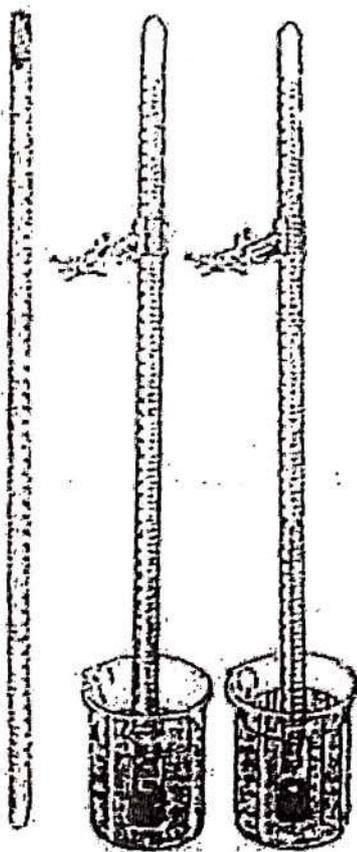

Figure 1 Manipulating the burette.
3. Fold the magnesium ribbon into a small pellet. Wrap it tightly all around with copper wire so that no small pieces can escape as it dissolves. Leave about 5 cm of copper wire to serve as a handle. See Figure 1.
7. While holding the copper coil by the handle, insert the metal about 3 cm down into the burette. Hook the copper wire over the edge of the tube and hold it there by inserting the stopper. Fill the burette completely so that the stopper displaces a little water when put in place. See the left of Figure 1.
8. Cover the hole in the stopper with your finger and invert the burette in the 600 mL beaker of water, as shown in the middle of Figure 1. Clamp the burette in place. The acid being more dense than water will flow down to the bottom and eventually react with the metal.